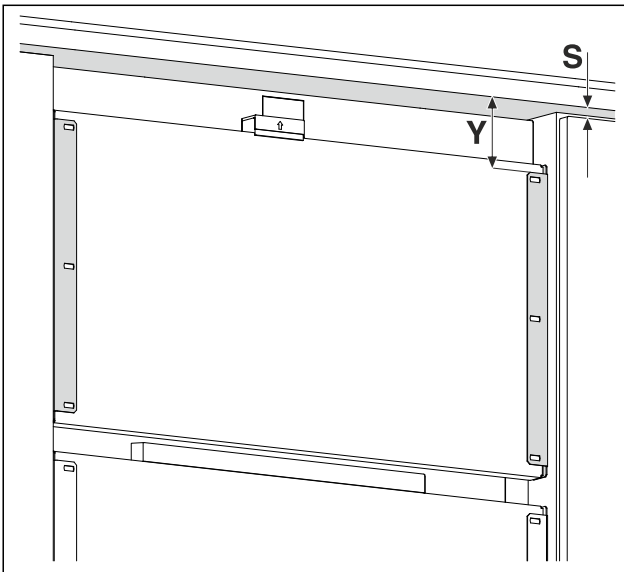

Fig. 16 Example illustration
- ▶ Measure the distance Fig. 16 (Y) from the lower edge of the unit front to the retaining bracket.
- ▶ Measure the distance Fig. 16 (S) from the lower edge of the unit front to the upper edge of the unit door.